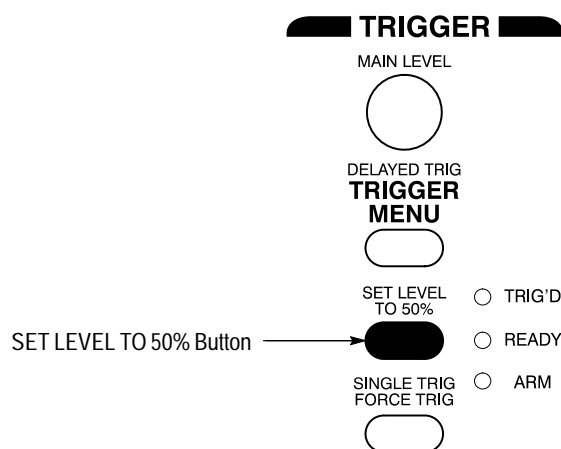

Figure 2–4: SET LEVEL TO 50% Button
4. Press **SET LEVEL TO 50%** (see Figure 2–4) to be sure the oscilloscope triggers on the input signal.
Read the following information to become familiar with the oscilloscope display. Figure 2–5 shows the display that results from the oscilloscope reset. There are several important points to observe: